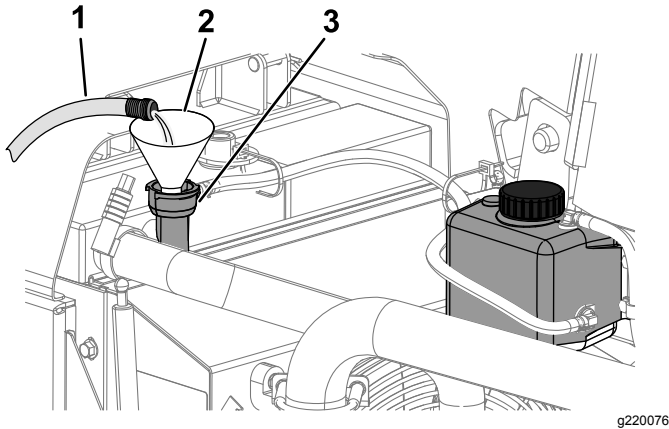

Figure 108
- B. Fill the radiator with clean water (Figure 108).